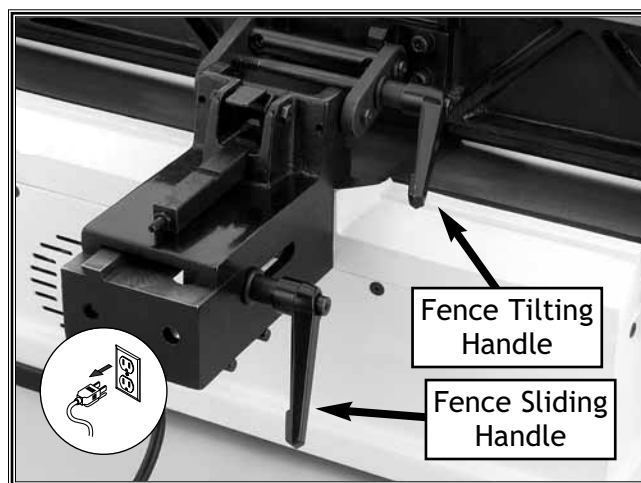

Figure 20. Fence bracket assembly.
1. Loosen the fence tilting handle (Figure 20).
1. Loosen the fence sliding handle (Figure 20).